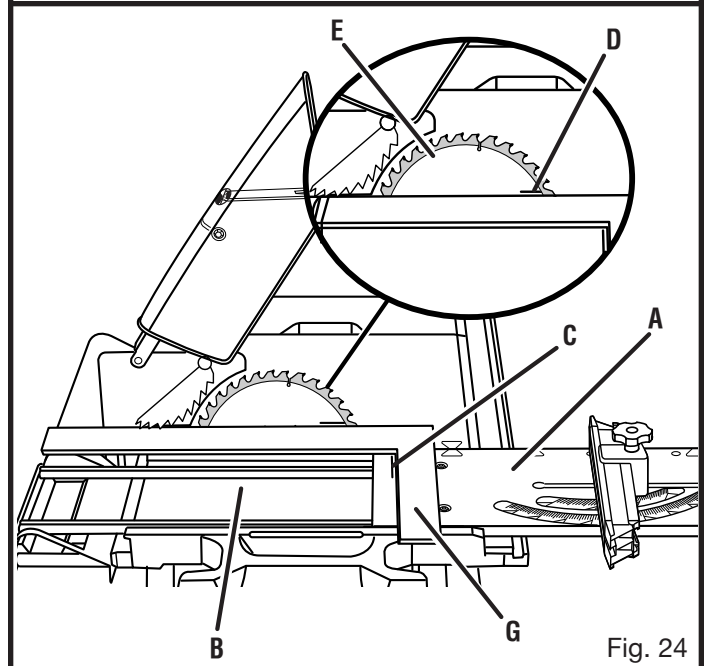

Fig. 24
See Figures 24 - 25.
- Slide miter table (A) to the front of miter base (B) as far as it will go. Place a reference mark (C) near the end of the miter table as shown in figure 24.